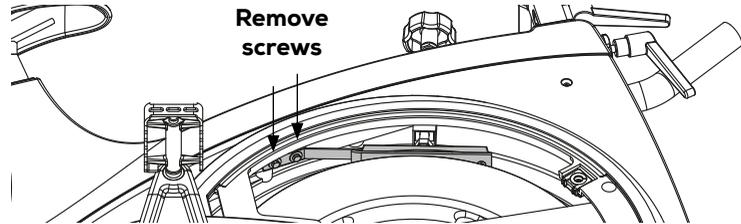

Figure 18
- 3) Remove the two screws holding the brake block to the frame by using an 8 mm wrench, see figure 18